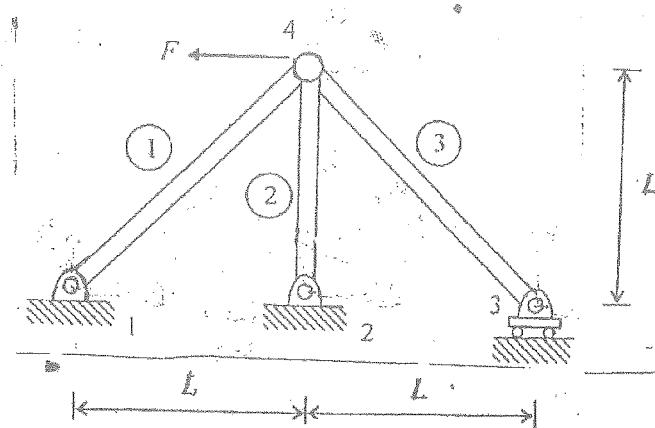

Figure Q5
- b) The truss shown in Figure Q5 is subjected to a horizontal force  $F$  at node 4. Let all the members have the same stiffness  $EA$ . Using FEM, find the displacement (in terms of  $F$ ,  $E$ ,  $A$  and  $L$ ) at node 4.